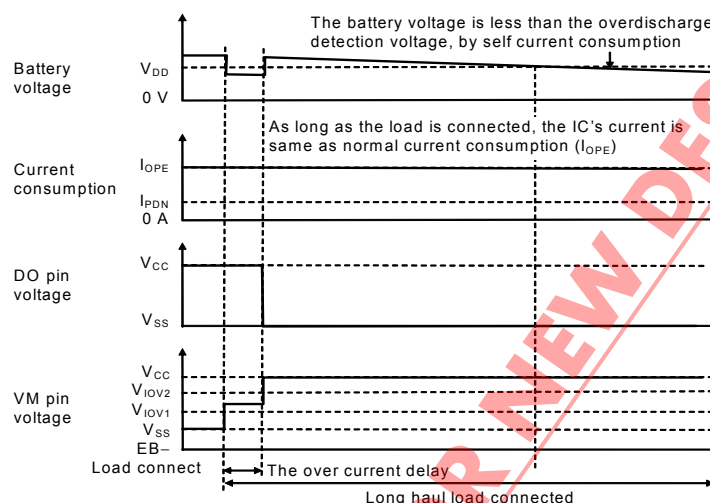

Figure 11
- After the overcurrent detection, the load was connected for a long time, even if one of the battery voltage became lower than overdischarge detection voltage ( $V_{DD1, 2}$ ), the IC can't detect the overdischarge as long as the load is connected. Therefore the IC's current consumption at the one of the battery voltage is lower than the overdischarge detection voltage is same as normal status current consumption ( $I_{OPE}$ ) (refer to the **Figure 11**).